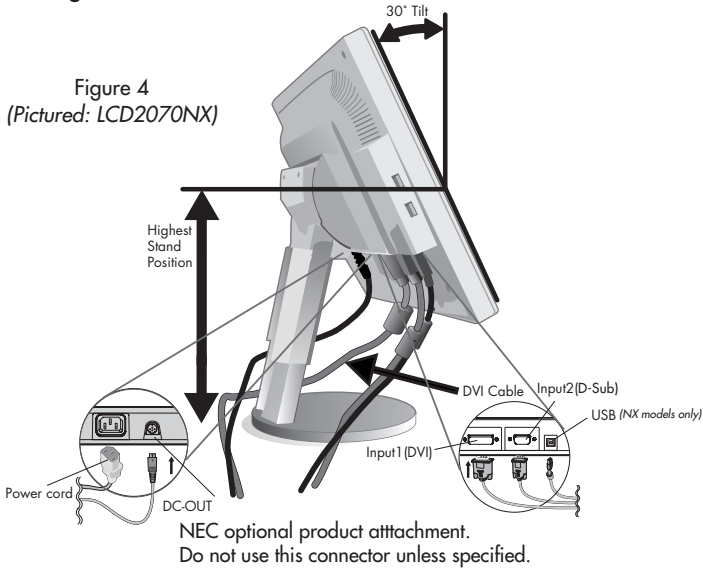

Figure 5
5. For successful cable management, place the cables in this order into the cable management: power cable and DVI cable (Figure 5).